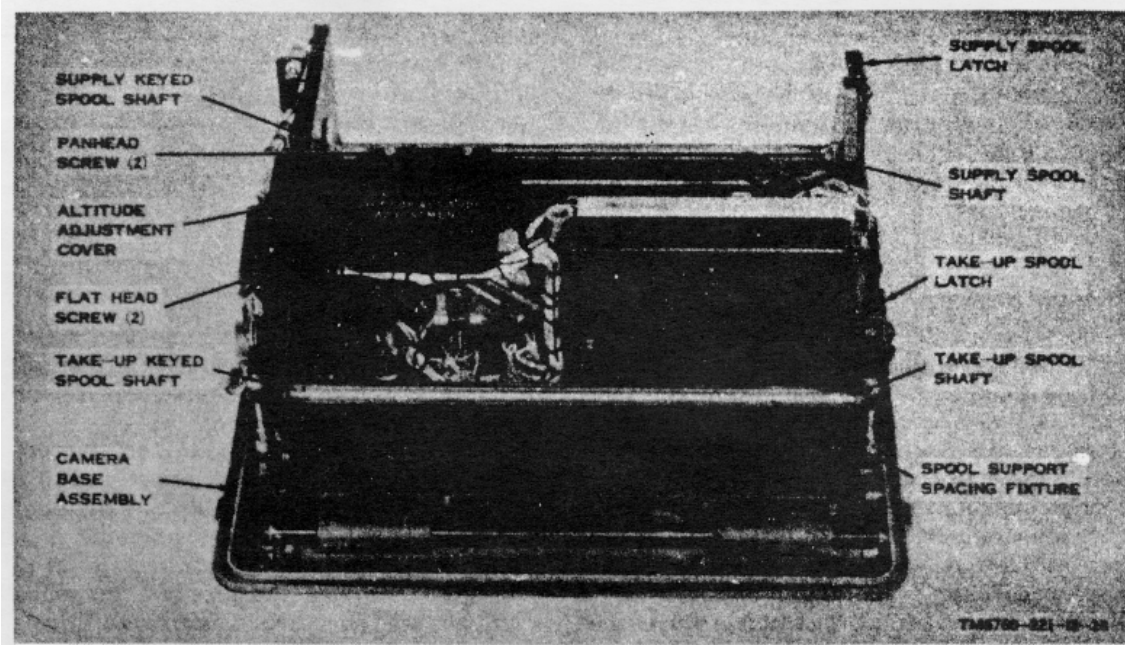

Figure 28. Use of spool support spacing fixture.
b. Remove the altitude adjustment cover from the camera base assembly (fig. 28) by removing two panhead and two flathead
47. Use of Spool Support Spacing Fixture (fig. 28)